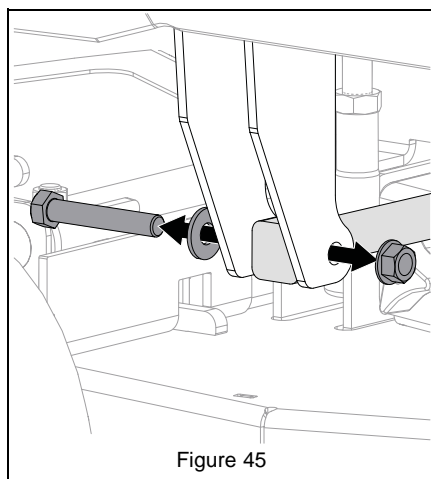

Figure 45
6. Remove hardware retaining drag links. Retain hardware for reinstallation. See Figure 45.